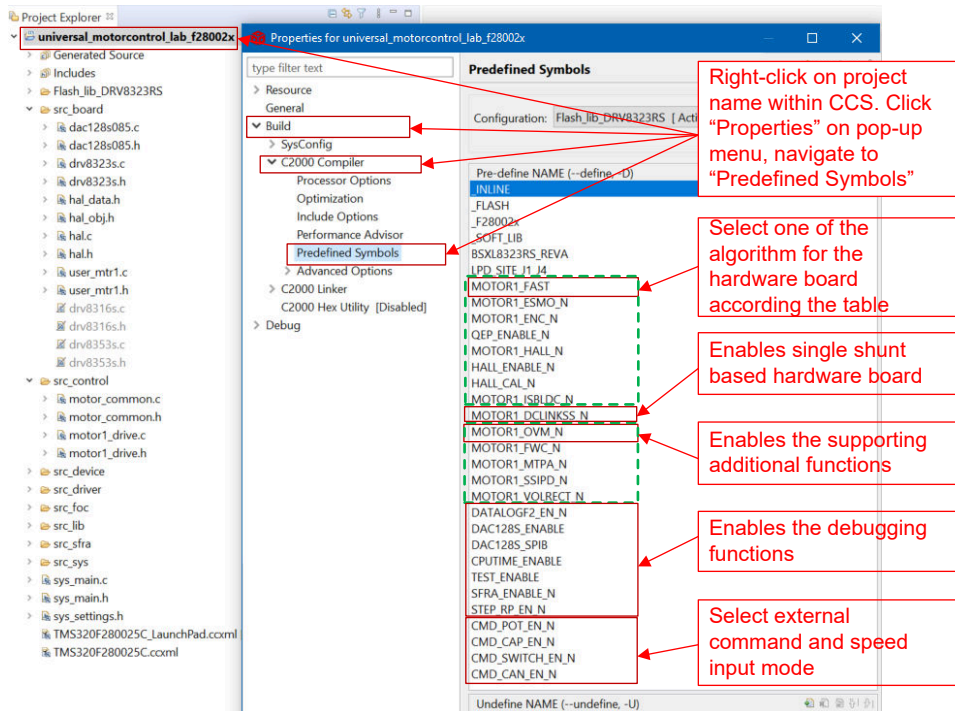

Figure 2-14. Select the Right Pre-define Symbols in Project Properties
3. Configure the project to select the supporting functions in project by right-clicking on the imported project name, and then click "Properties" command to set the pre-define symbols for the project as shown in Figure 2-14.
- c. Select the right supporting functions by enabling the pre-define symbol as shown in Figure 2-14.
Instanting one DATALOG object and handle, which is done in "datalogIF.c" file by adding pre-define name "DATALOGF2_EN" in project properperies as shown in Figure 2-14.